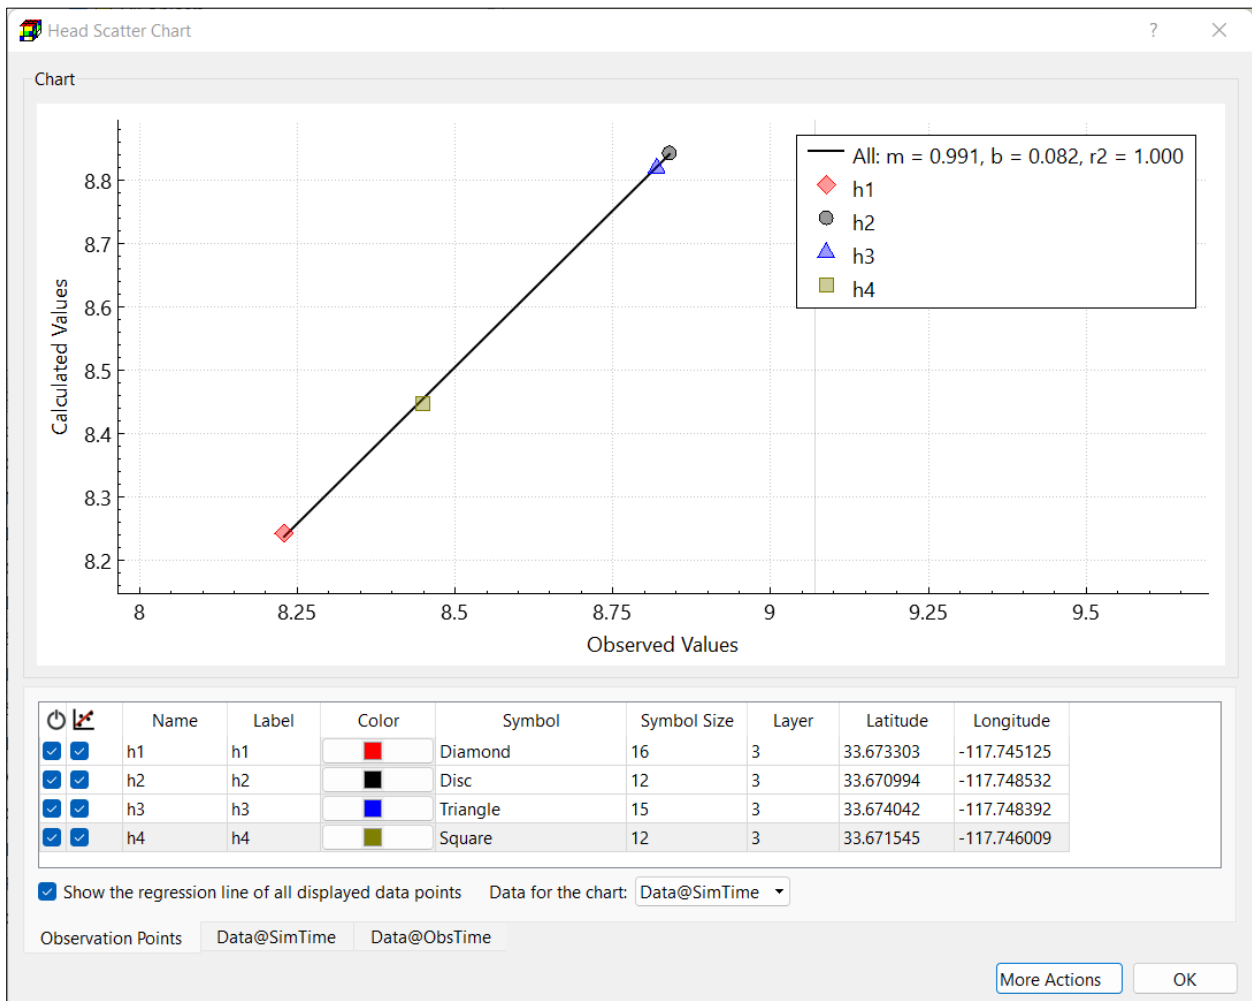

Figure 25. The Head Scatter Chart dialog box
1. Select Models > PEST > View > Scatter Chart > Head to display the Head Scatter Chart window (Figure 25).